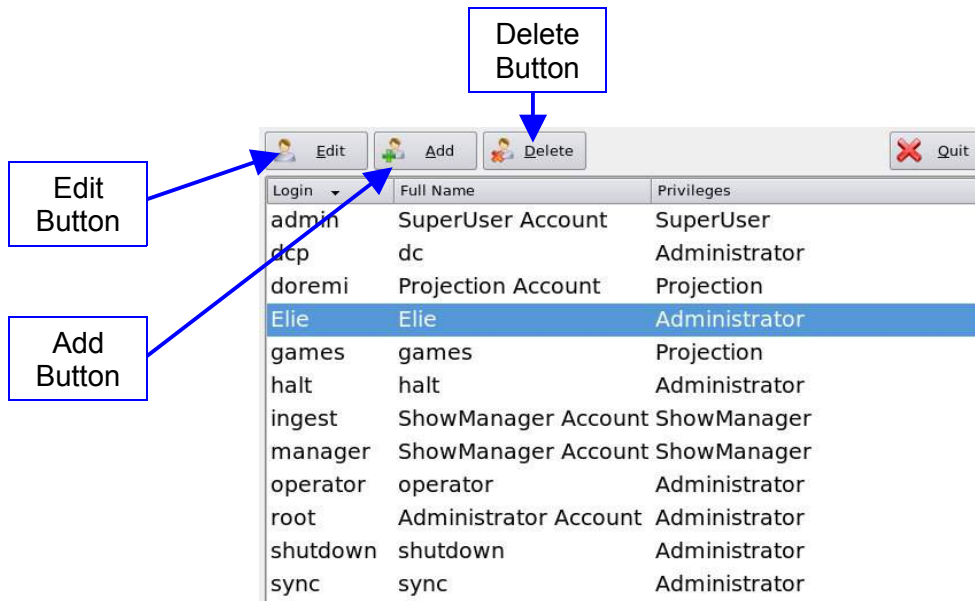

Figure 105: Account Manager Window
- The following window will appear (Figure 105):